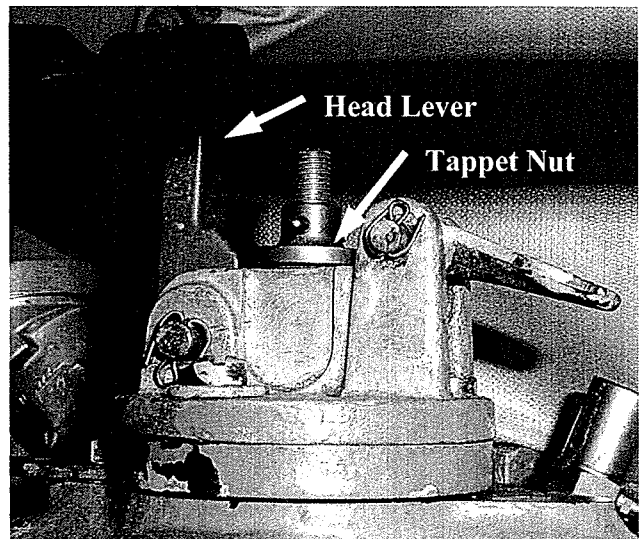

Figure 4.4-2. Mechanical Linkage End At Overspeed Trip Mechanism
- _____ 2. At Overspeed Trip Mechanism: (See Figure 4.4-2)